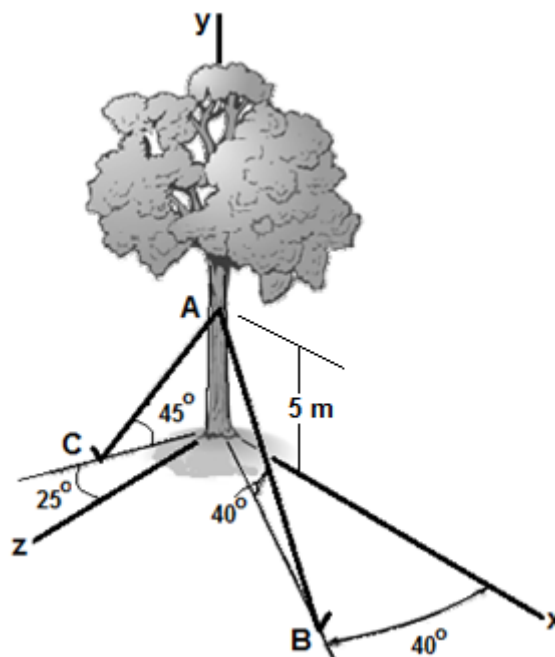

Figure 1[a]
- [b] An L-beam ABC as in Figure 1[b] is subjected to force and couple systems.